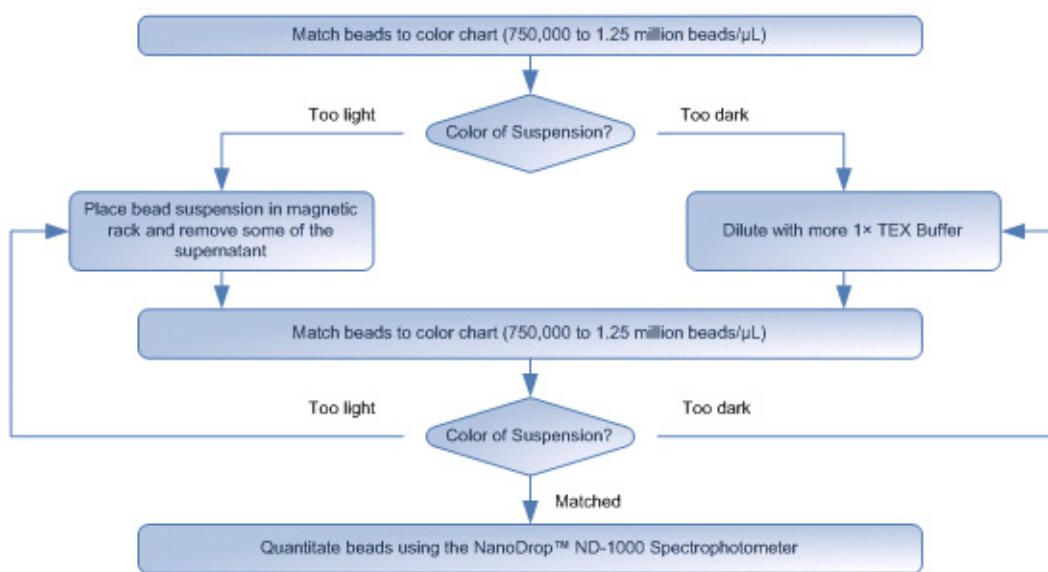

Figure 18 The SOLiD™ Bead Concentration Chart workflow.
5. Adjust the volume of beads so that the color of the bead solution matches a color in the optimal range (750,000 beads/μL to 1.25 million beads/μL; see Figure 18).